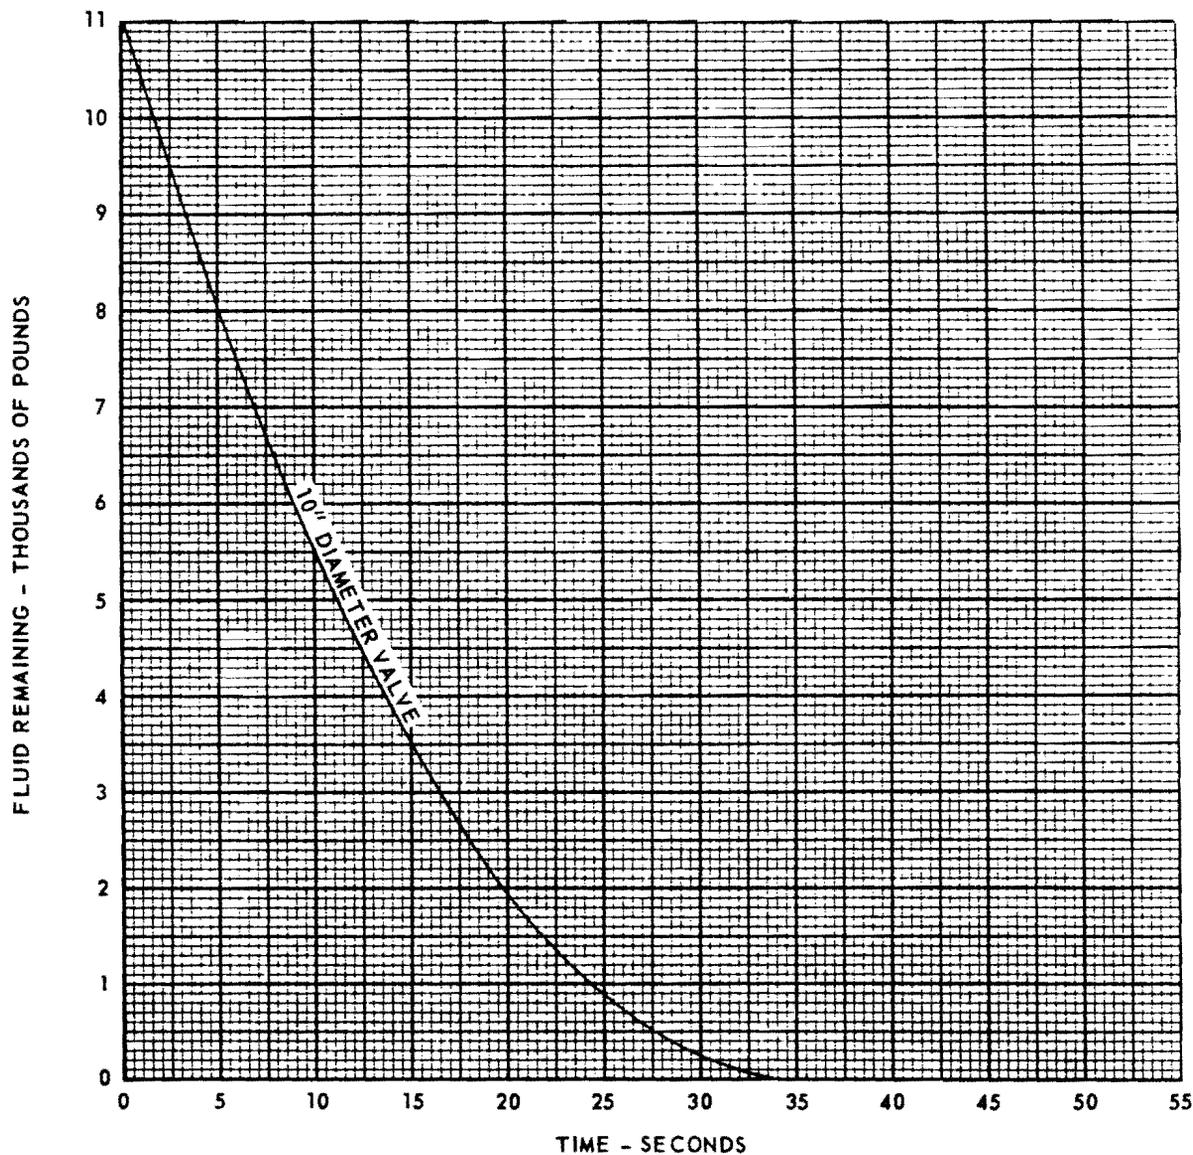

Figure 3-8A
- (A) Approximate dumping time is 29 seconds. Refer to Figure 3-8A.
- (B) Approximate dumping time with full tanks is 90 seconds.